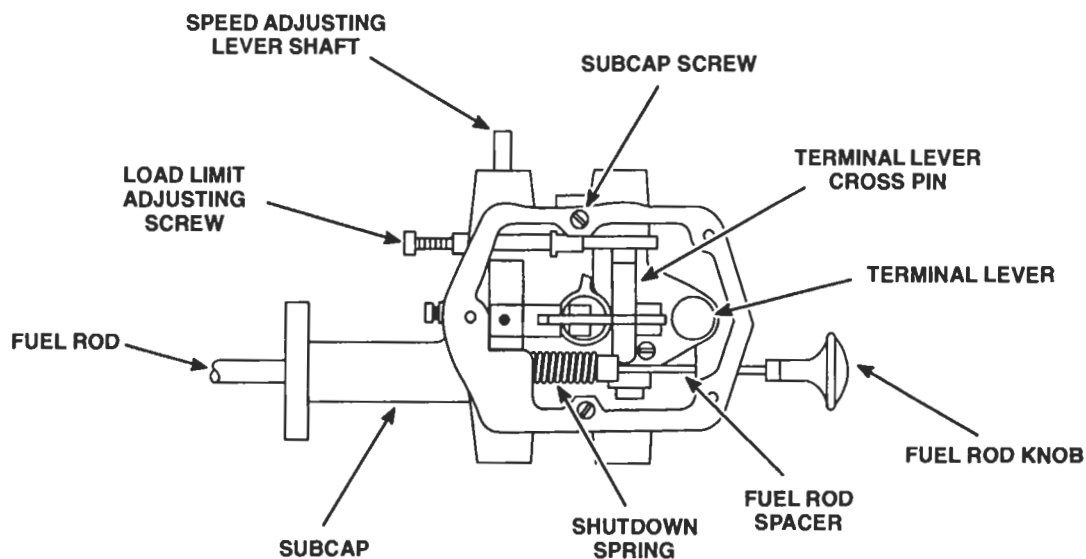

Figure 7. Top View of Current Governor with Cover Removed
6. Remove the three cover screws, then lift the governor cover and gasket from the governor housing. Remove the two subcap-to-cylinder head bolts. Remove the two subcap retaining screws (Figure 7.)